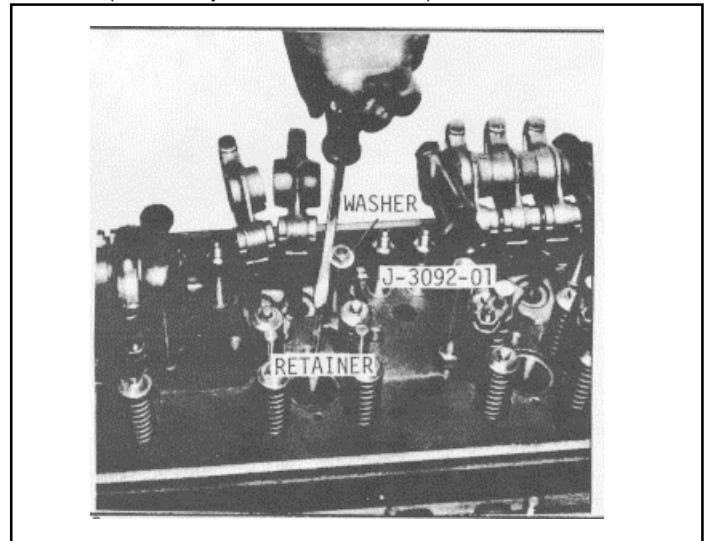

Fig. 3
- (1) Remove the rocker arm shaft and brackets as outlined under 6.3 "Remove Rocker Arms and Shaft."
- (2) Loosen the lock nut and unscrew the rocker arm from the push rod to be removed. Remove the lock nut.
- (3) Install remover J 3092-01, a flat washer and the lock nut on the push rod, with the lower end of the tool resting on the upper spring seat.
- (4) Thread the nut down to compress the spring.
- (5) Remove the spring seat retainer from groove in the cylinder head (Fig. 3).
- (6) Unscrew the lock nut to release the spring. Then remove the nut, flat washer and tool from the push rod.